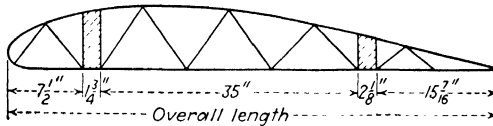

Fig. 14.—Airplane wing rib.
8. Find the over-all length of the diagram in Fig. 14: